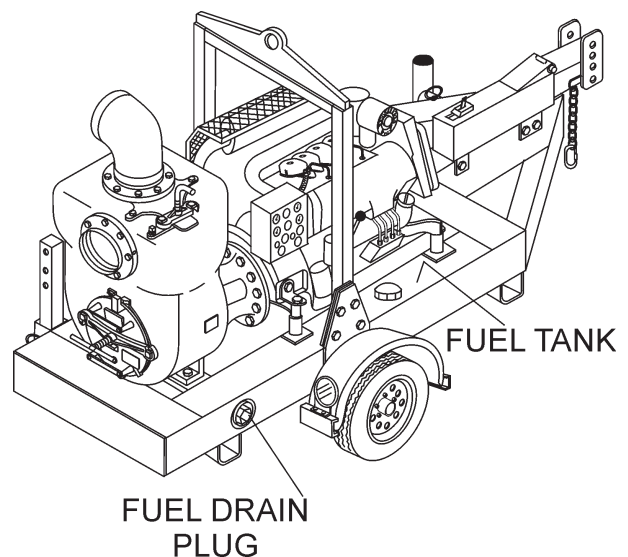

Figure 20. Fuel Tank/Drain Plug
Unscrew the fuel drain plug on the fuel tank (Figure 20) to remove water and sediment every 500 hours. If the purity of the fuel being used is of lesser quality drain the fuel tank more frequently.
3. As shown in Figure 20 (next page), place a water hose inside the discharge opening of the pump, and turn on the water. This flow of water into the discharge opening will **prevent** the pump from running dry.